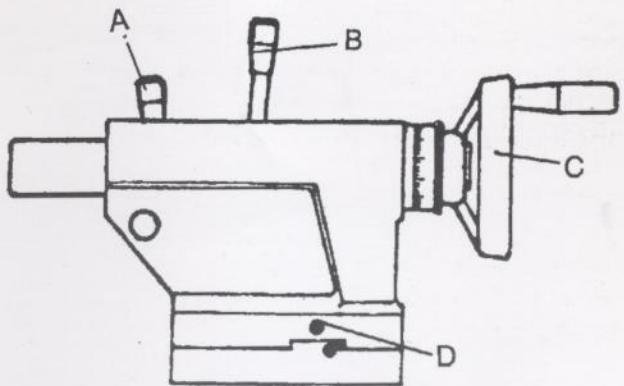

Fig.13
17. Tailstock Quill Clamping Lever (A, Fig.13) -
18. Tailstock Clamping Lever(B, Fig.13)-
(c, Fig.13) - located on the tailstock. Rotate clockwise to advance the quill. Rotate counter-clockwise to retract the quill.
20. Tailstock Off-Set Adjustment (D, Fig. 13) -